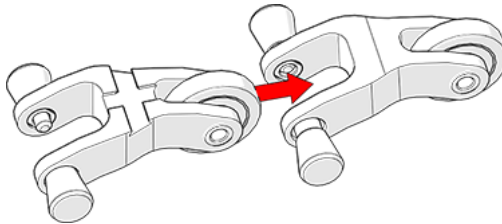

Figure 3-43 Align mounting holes
2. Align the pins with the mounting holes of the component to be connected (see Figure 3-43 on page 69).